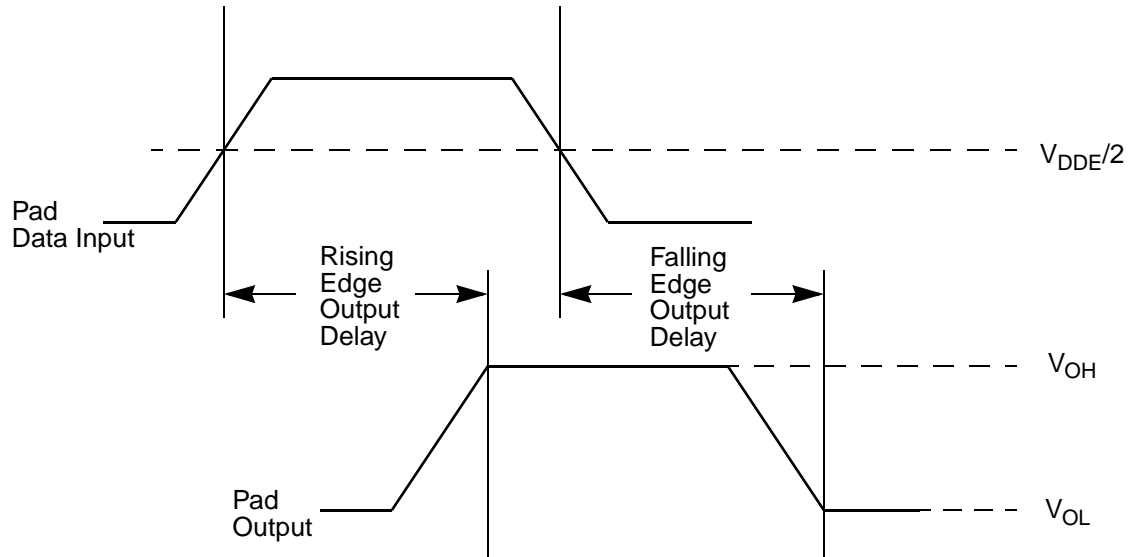

Figure 8. Pad output delay
⁸ Output delay is shown in Figure 8. Add a maximum of one system clock to the output delay for delay with respect to system clock.
- ⁷ Output delay is shown in Figure 8. Add a maximum of one system clock to the output delay for delay with respect to system clock.